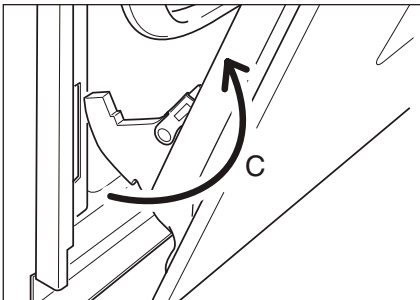

Fig.36e
- Withdraw the hinge hooks from their location following arrow "C" (Fig. 36e).